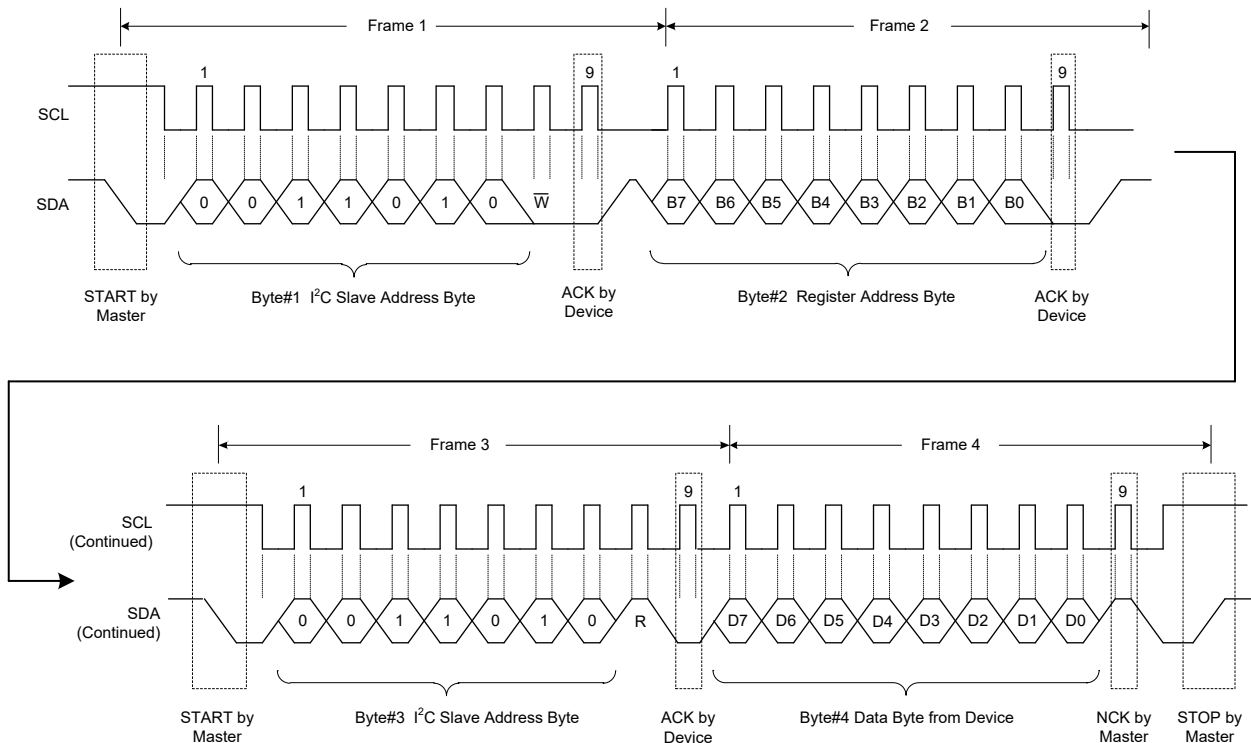

Figure 17. A Single Read Transaction
**READ:** If the master wants to read a single register (Figure 17), it sends a new START condition along with device address with R/W bit = 1. After ACK is received, master reads the SDA line to receive the content of the register. Master replies with NCK to inform slave that no more data is needed (single read) or it can send an ACK to request for sending the next register content (multi-read). This can continue until an NCK is sent by master. A STOP must be sent by master in any case to end the transaction.